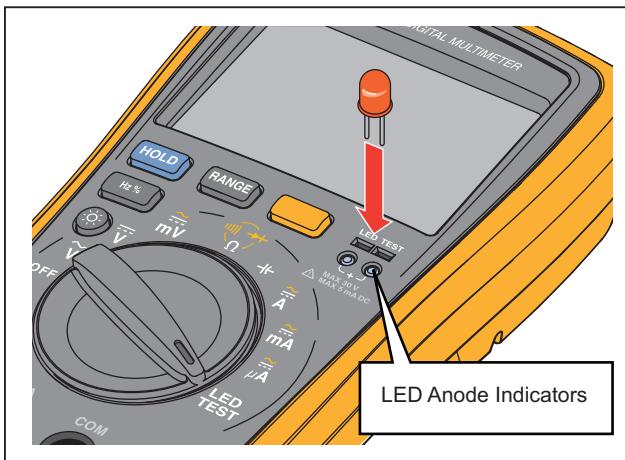

Figure 4. LED Test Sockets
2. Place the leads of the LED into the holes of the LED test socket on the front of the Meter as shown in Figure 4.